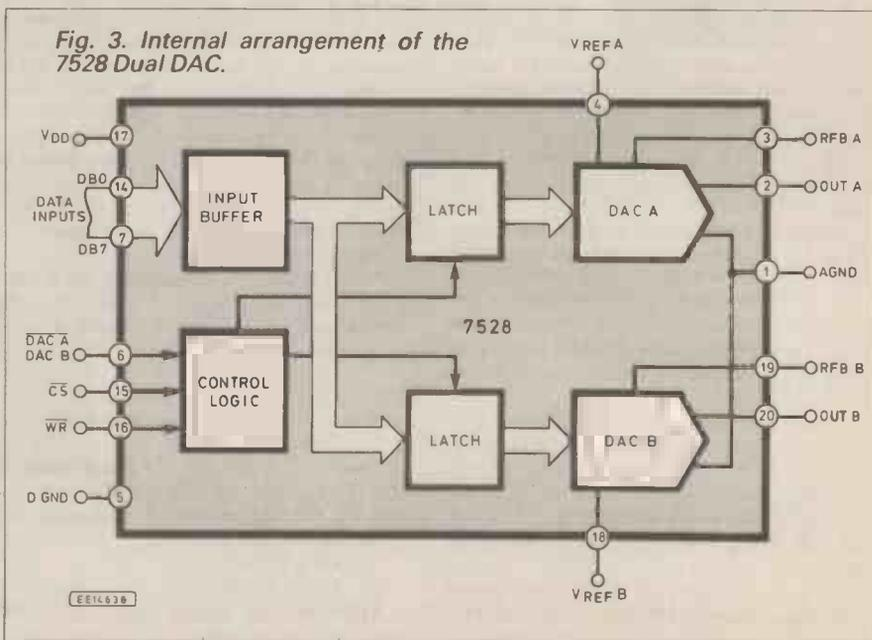

Fig. 3. Internal arrangement of the 7528 Dual DAC.
R. W. Davis writes from Dorchester to point out that the gate circuits shown in Fig. 3 of Part One should have been referred to as NAND and not AND. Roger Seymour-Lee has written from Oyster Bay, New York, to mention several errors which cropped up in Part Four. In particular, the answers to questions 1 and 7 of the First Pre-Test should have been shown as (c) and (a) and not (d) in both cases.
The internal arrangement of the 7528 is shown in Fig. 3. Data from the system data bus is fed, via an input buffer and internal 8-